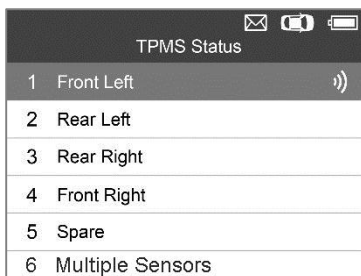

Figure 5-21 Sample Triggered Sensor Screen
1. From the activation screen, press the **TEST** button to trigger the original sensor. When the information is retrieved, a series of beep sound will be heard and the sensor information will display (Figure 5-21).